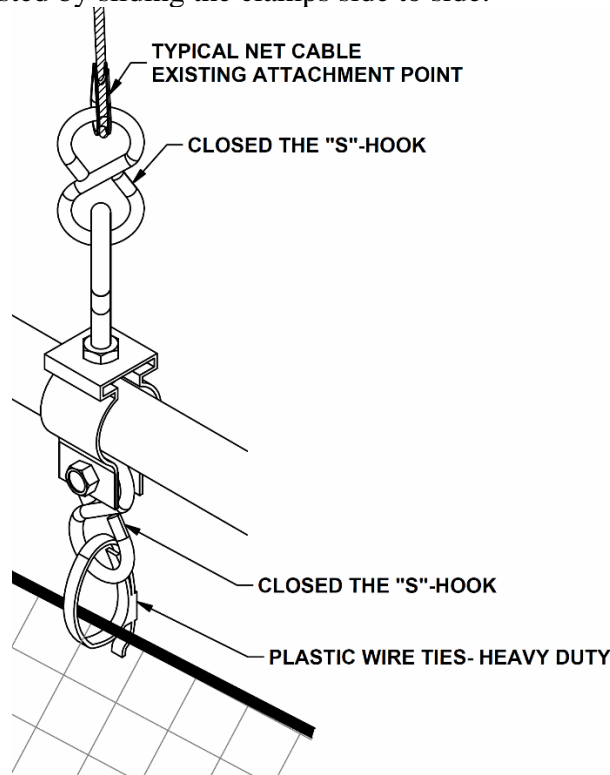

Figure 2: Assemble Spreader on Net Every 6 FT
2. Start from the edge of the net and space the next spreader every 6 feet. Attach net onto the spreader, as shown in Figure 2. Tighten the plastic wire ties all the way. Note that the pipe clamp can be adjusted by sliding the clamps side to side.